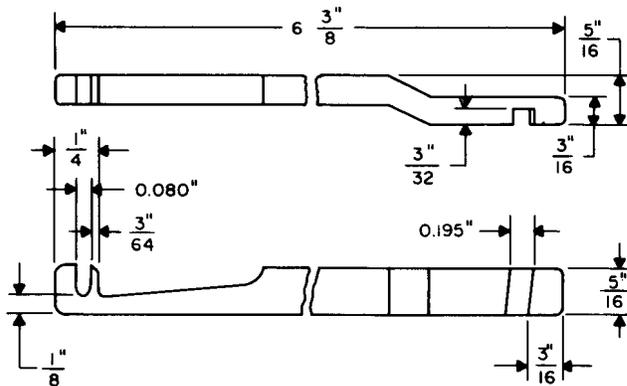

Fig. 8—379A Adjuster Tool
2.08 **379A:** The 379A tool (Fig. 8) is a spring adjuster for use on helical spring-type clutches and 200- and 206-type selectors. The 379A tool replaces the 233 and 301 tools and the R-63773 adjuster.